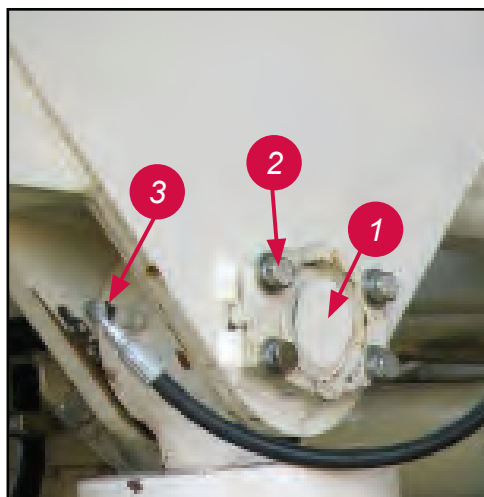

Fig. 3-4 Upper Cylinder Pin
3. Install upper pivot pin and retaining bolts on each side (fig. 3-4).